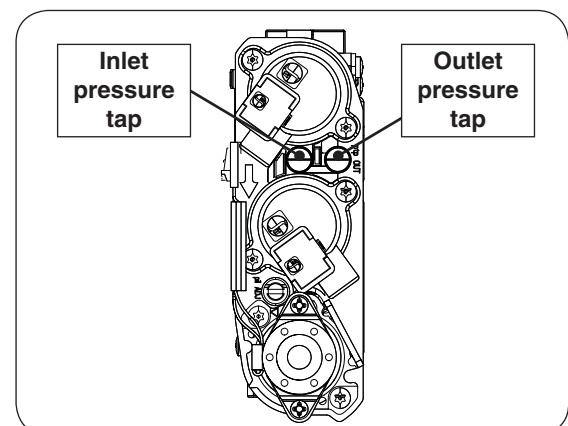

Fig. 30-5 Gas valve detail
1. With burners on, check the gas pressure to ensure all requirements are met. Reference Fig. 30-5 for pressure tap locations, and the GAS PRESSURE REQUIREMENTS section for details.